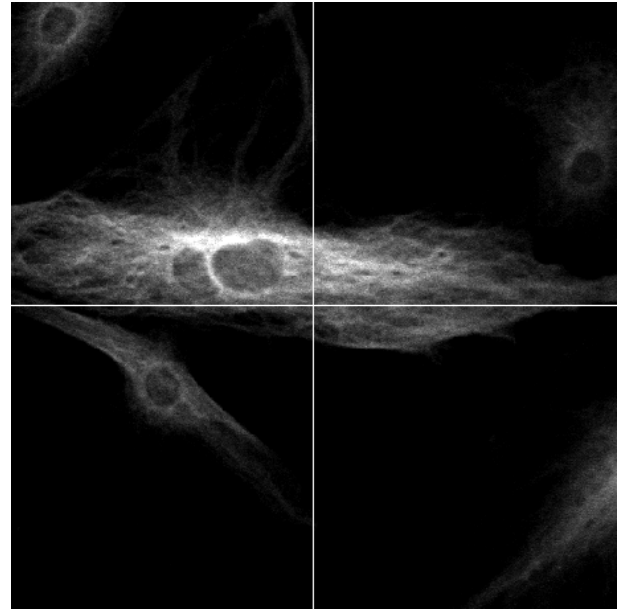

Fig. 143 Manual stage positioning with the ConfoCor 3
- ☞ If no position is selected in the ConfoCor 3, the scanners and stage will stay and if no offset, pan or rotation was defined, the bleached spot will be at the center of the image (Fig. 143).